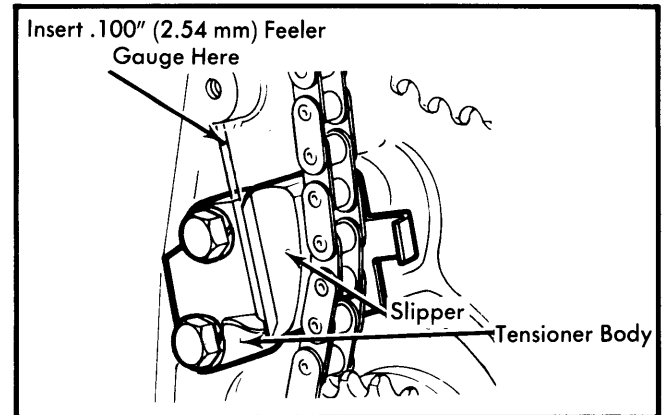

Fig. 2 Adjusting Timing Chain Tension
3) Set chain tension as follows: Insert a .100" (2.54 mm) feeler gauge between chain slipper and tensioner body. See Fig. 2. Loosen three chain guide retainer bolts and press down on timing chain guide between camshaft and intermediate shaft sprockets until feeler gauge is a sliding fit. Hold guide in this